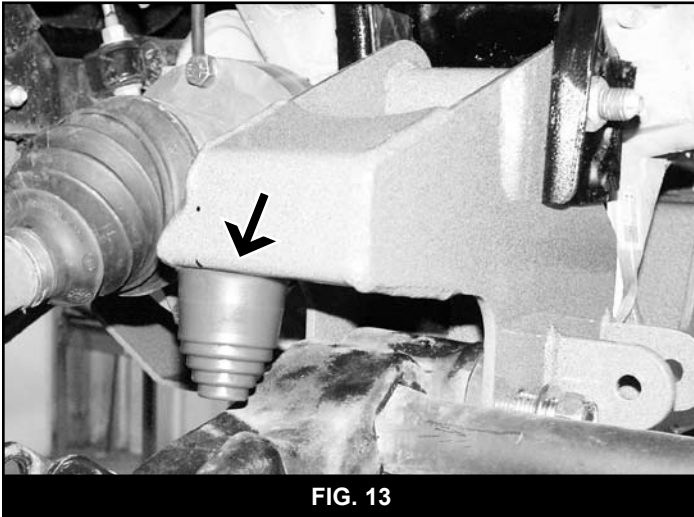

FIG. 13
36. Install the provided bump stops to the new BDS rear crossmember with 3/8" nuts, lock washers and 3/8" SAE flat washers from bolt pack #539. Tighten hardware securely (Fig 13).